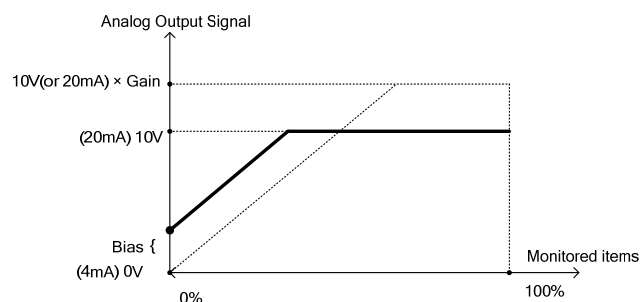

Figure 4.3.51 Analog output level adjustment
**(1) Analog output adjustment (04-12, 04-13) ◦**
- Please refer fig 4.3.51 for analog output level adjustment.